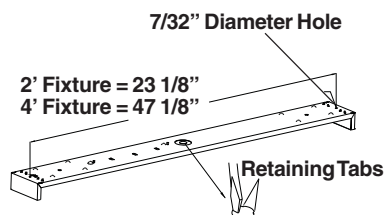

Figure 2
4. Remove center 7/8" knockout by placing straight blade screwdriver on edge of knockout and strike with hammer. (Always wear safety glasses when hammering). Remove slug by flexing back and forth with pliers. Position fixture with 7/8" hole diameter over junction box and Mark location of 7/32" mounting holes. **See Fig. 2.**